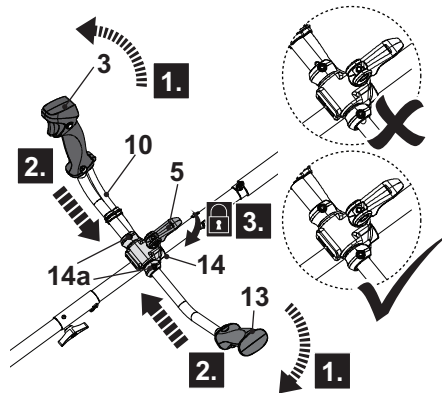

Fig. 6
1. Unfold the clamp lever (5) but don't remove it, then rotate two handle bars (3, 13) 90° from the storage positions to the working position (Fig. 6, step 1).
2. Pass the slot of the handle bars (3, 13) through the bolts (14a) of handle support (14) all the way until you hear a click and keep the handle bars (3, 13) in place (Fig. 6, step 2). Secure the connections by tightening the bolts (14a) clockwise using the supplied hex key (4mm) (25).
3. Lock the handle bars (3, 13) by folding up the clamp lever (5). If clamp lever (5) cannot be folded, loosen it and fold again. If it is too loose, tighten it by swinging the clamp lever (5) in clockwise (Fig. 6, step 3).
4. Make sure the electric cord (10) run on the right-handle bar (3).